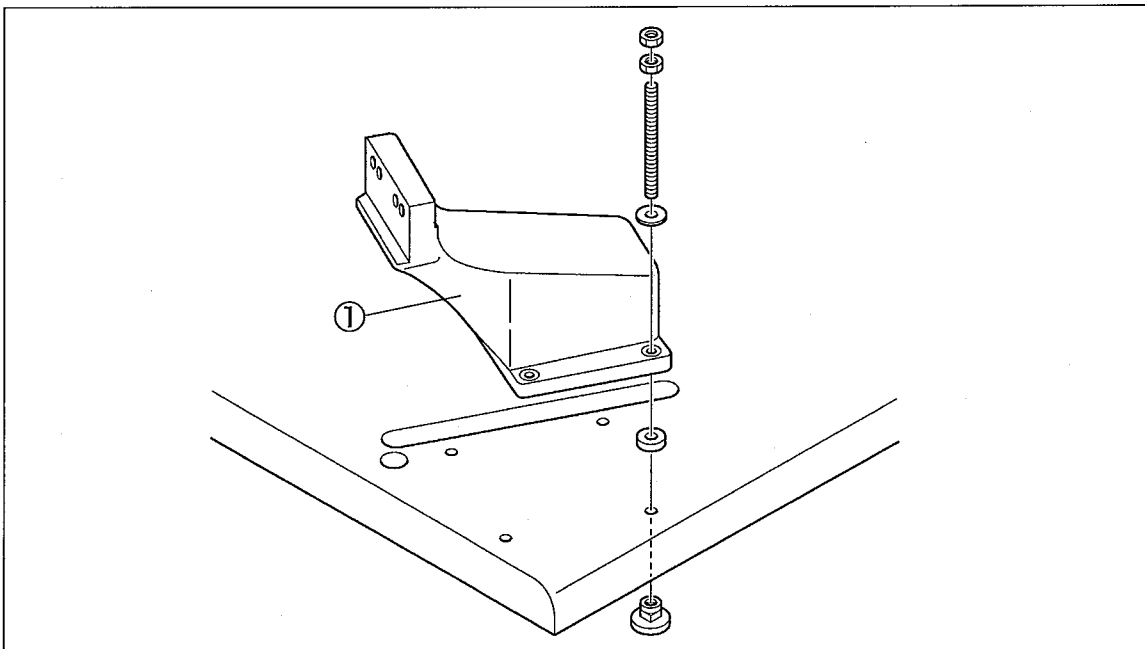

Fig. 2-10
Set the sewing machine supporting block ①, referring to Fig. 2-10.